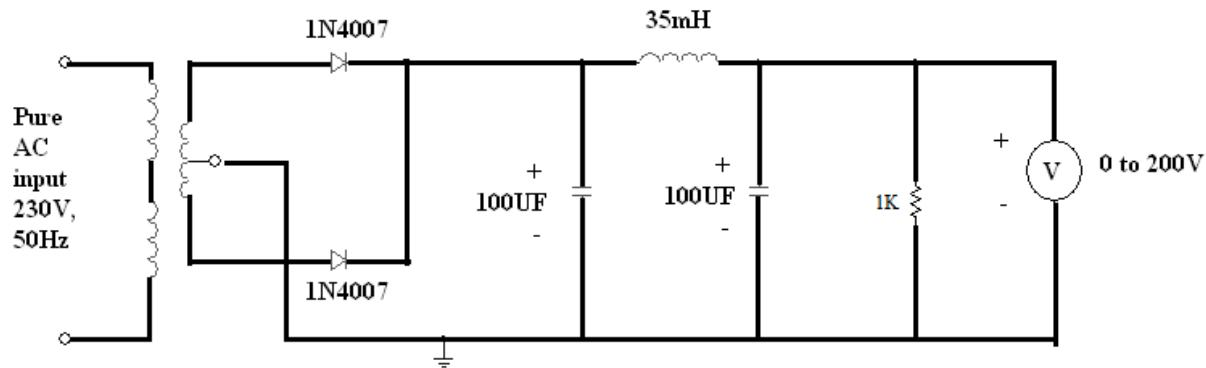

Fig. 2: Full wave rectifier with  $\pi$ -section filter
1. Connect the circuit as shown in the fig.2.